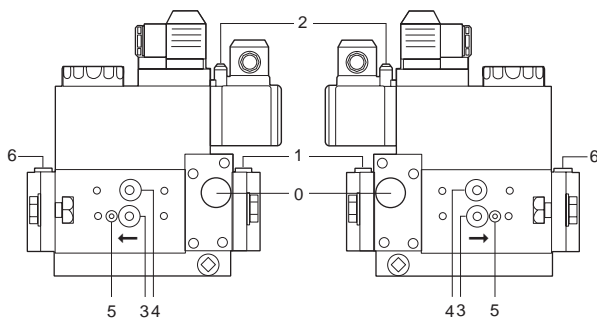
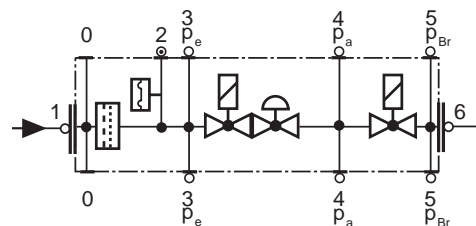

Fig. 23
Fig. 24
- Clean and examining the gas filter cartridge, if necessary replace it (Fig. 23 on).
- Change the filter if the pressure difference between pressure connection 1 and 3 (Fig. 23-Fig. 24) is $\Delta p > 10$ mbar.
- Change the filter if the pressure difference between pressure connection 1 and 3 (Fig. 23-Fig. 24) is twice as high compared to the last check.